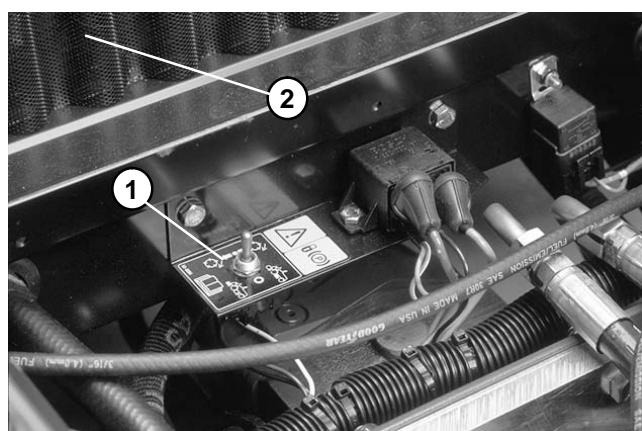

Figure 22
5. Select either front or rear on backlap switch to determine which units to backlap (Fig. 22).
12. When backlap operation is completed, return backlap switch to OFF (Fig. 22).